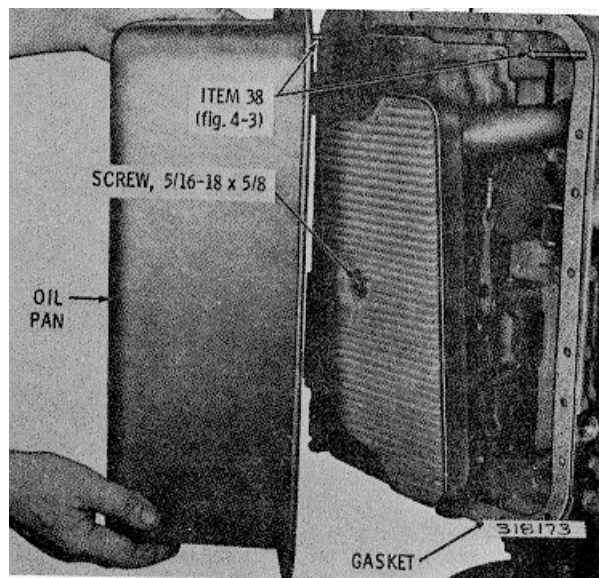
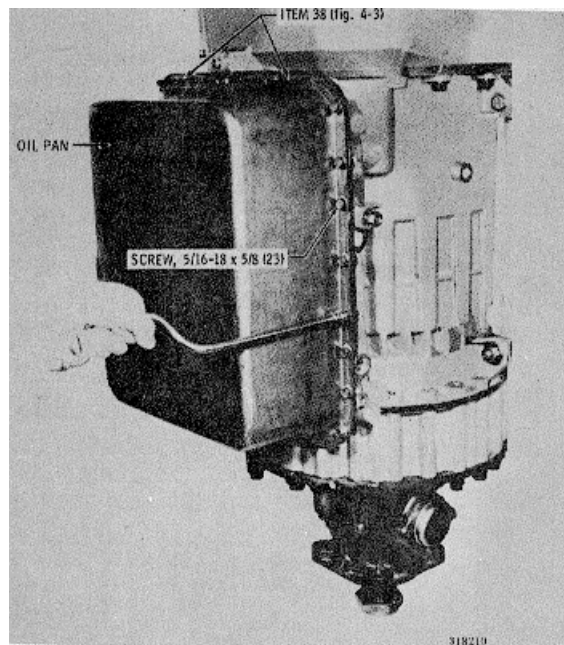

Fig. 7-51 Installing oil pan
Fig. 7-52 Installing oil pan screws
- (3) Retain the oil filter with one 5/16-18 x 5/8-inch, washer headscrew and a spacer between the filter and valve body (fig. 7-51). Tighten the screw to 10 to 13 pound feet (14 to 18 N.m) torque.
- (4) Install two 5/16-18 x 3-inch guide screws 38 (fig. 4-3) into the transmission housing (fig. 7-51).
- (5) Install a new oil pan gasket over the guide screws. Aline all holes in the gasket with those in the housing (fig. 7-51).
- (6) Install the oil pan (fig. 7-51). Install twenty-three 5/16-18 x 5/8-inch, washerhead screws (fig. 7-52). Tighten the screws evenly to 10 to 13 pound feet (14 to 18 N.m) torque.